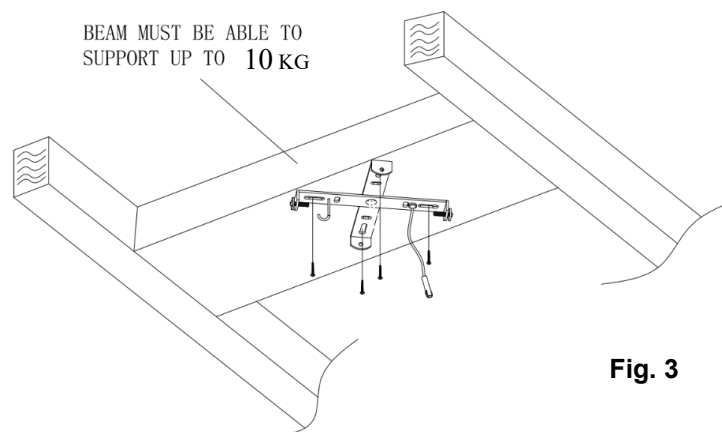

Fig. 3
- Install the hanging bracket to the ceiling joist or structure that is capable of carrying a load of at least 10 kg, with four long screws provided. Ensure at least 30mm of the screw is threaded into the support. (Fig. 3)